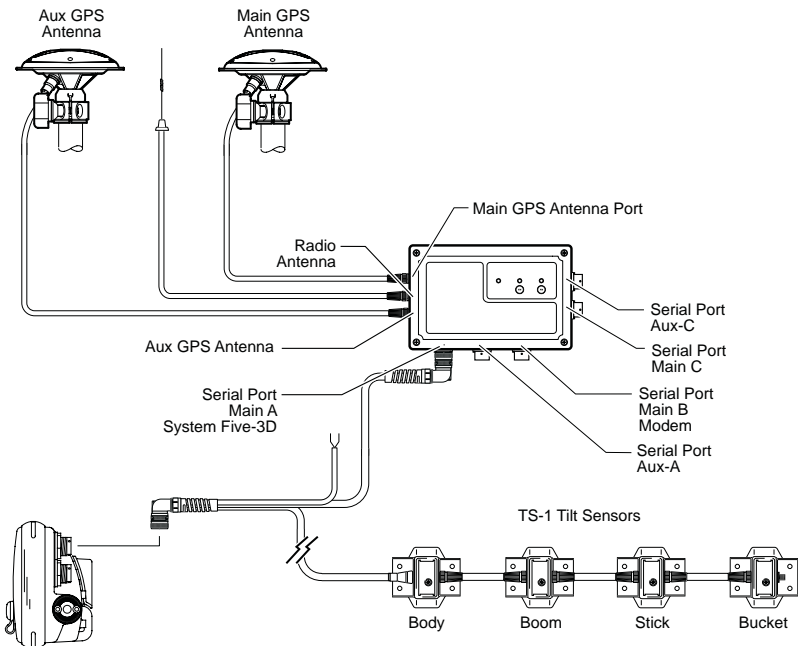

Figure 4-8. System Connections
2. Attach the following cables to the MC-2.5 Box (Figure 4-8):
2. Connect the electrical cable to the top serial port (Figure 4-8).